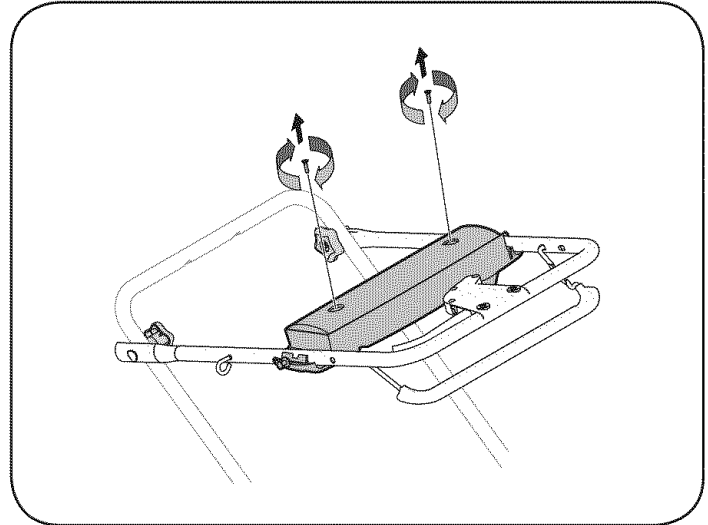

Figure 20
1. Loosen star knobs securing upper and lower handles and carefully fold the upper handle down toward the lower handle as shown in Figure 20.
2. Remove the two screws securing battery cover to battery housing and place them to the side. See Figure 20.
1. Open the battery cover as described in Replacing Battery. See Figure 20.